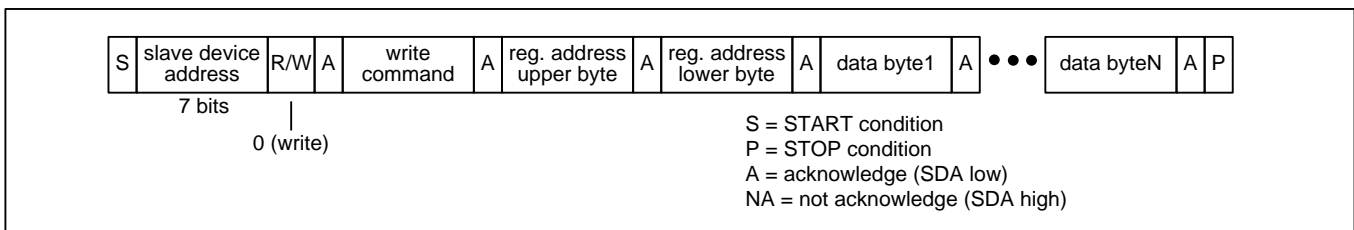

Figure 8 – I²C Register Write Transaction Functional Timing
Register Write Transactions. The device registers are accessible when **EESEL=0**. The bus master does an I²C write to the device. The first three bytes of this transaction are the SPI Write command (see Table 3), the upper byte of the register address, and the lower byte of the register address. Subsequent bytes are data bytes to be written. After each data byte is received, the device writes the byte to the write address and then increments the write address. The bus master terminates the write with a STOP condition (P). See Figure 8.